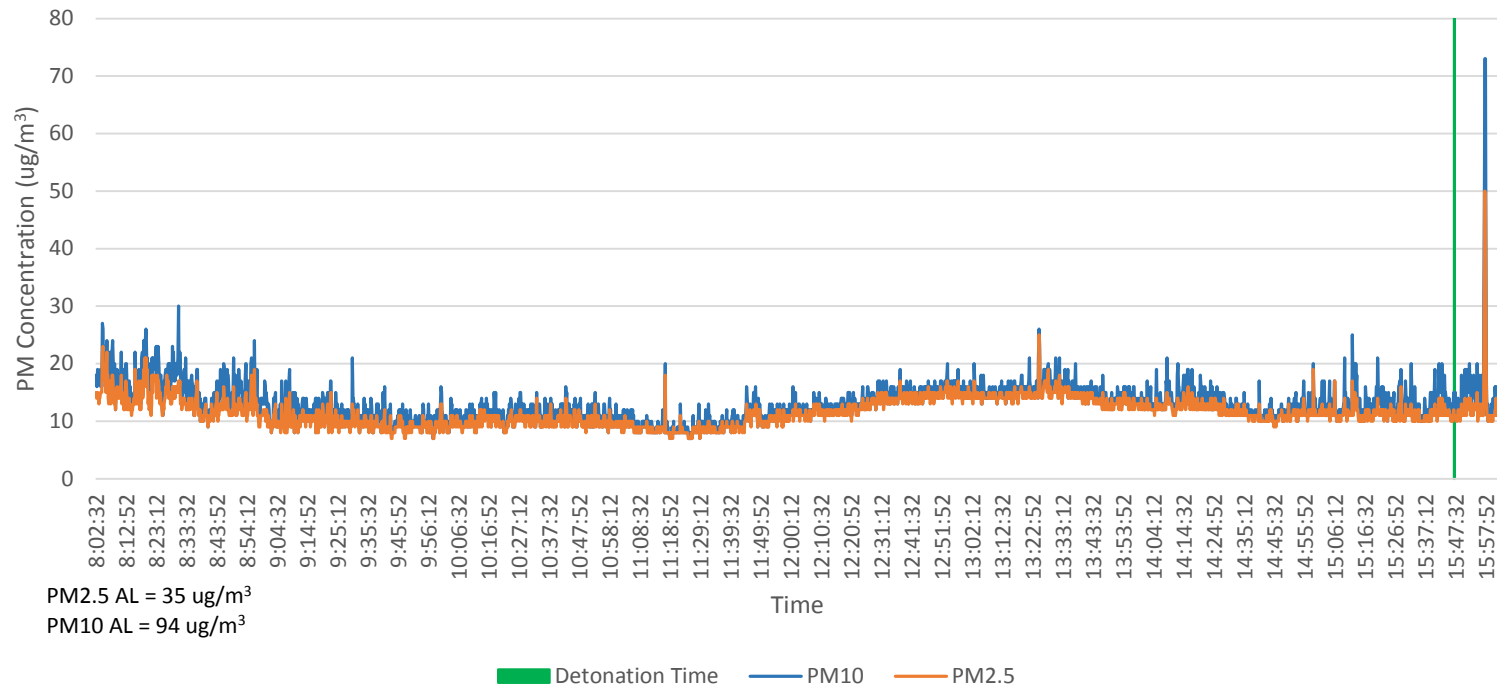

Figure 3-15. PM2.5 and PM10 on 8/14/17 at the Fence Line Boundary
- Figure 3-15. PM2.5 and PM10 on 8/14/17 at the Fence Line Boundary Monitoring Point – Lower Factory Pond